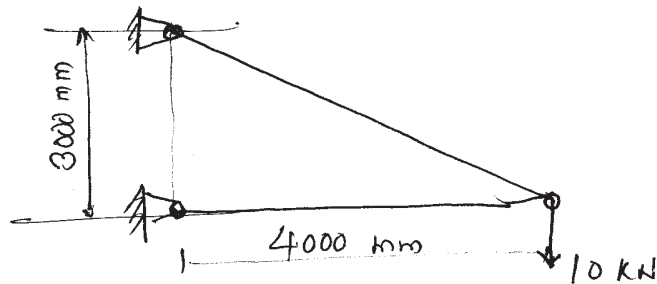

Figure 2
- Q10)a) A two member truss is as shown in figure 2. The cross-sectional area of each member is 200 mm^2 and modulus of elasticity is 200 GPa . Determine the deflection, reaction and stresses in each of the members. [10]